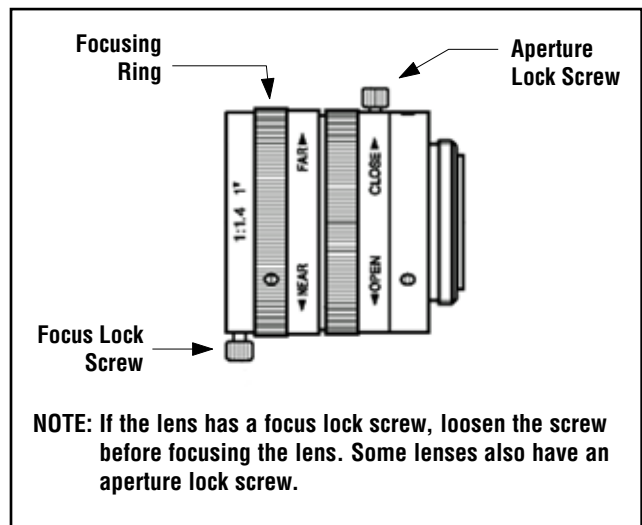

Figure 4-2. Lens focusing ring and lock screws
- d. Focus the lens by turning the lens focusing ring (shown in Figure 4-2) until the focus value is maximized. See Focusing the Lens on page 26.